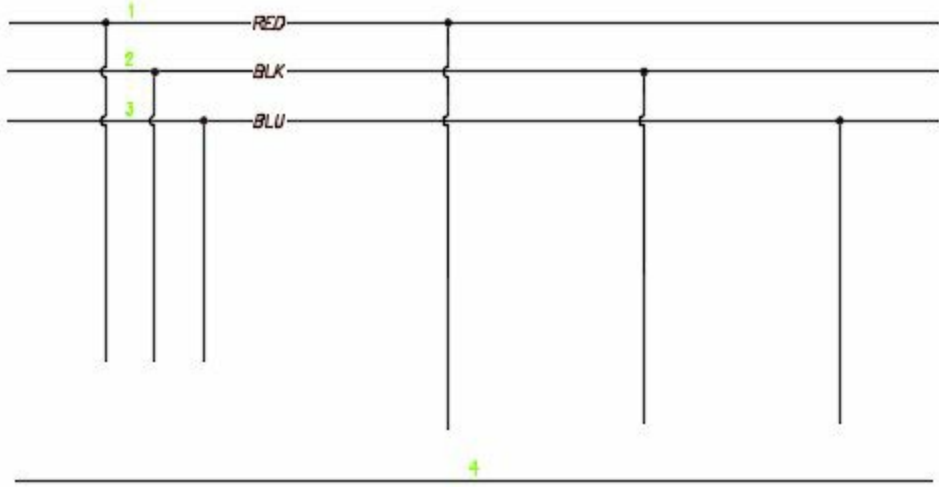

Figure-62. Wire numbers assigned to the wires
- Click on the **Drawing-wide** button from the dialog box. The wire numbers will be assigned to the wires; refer to Figure-62.